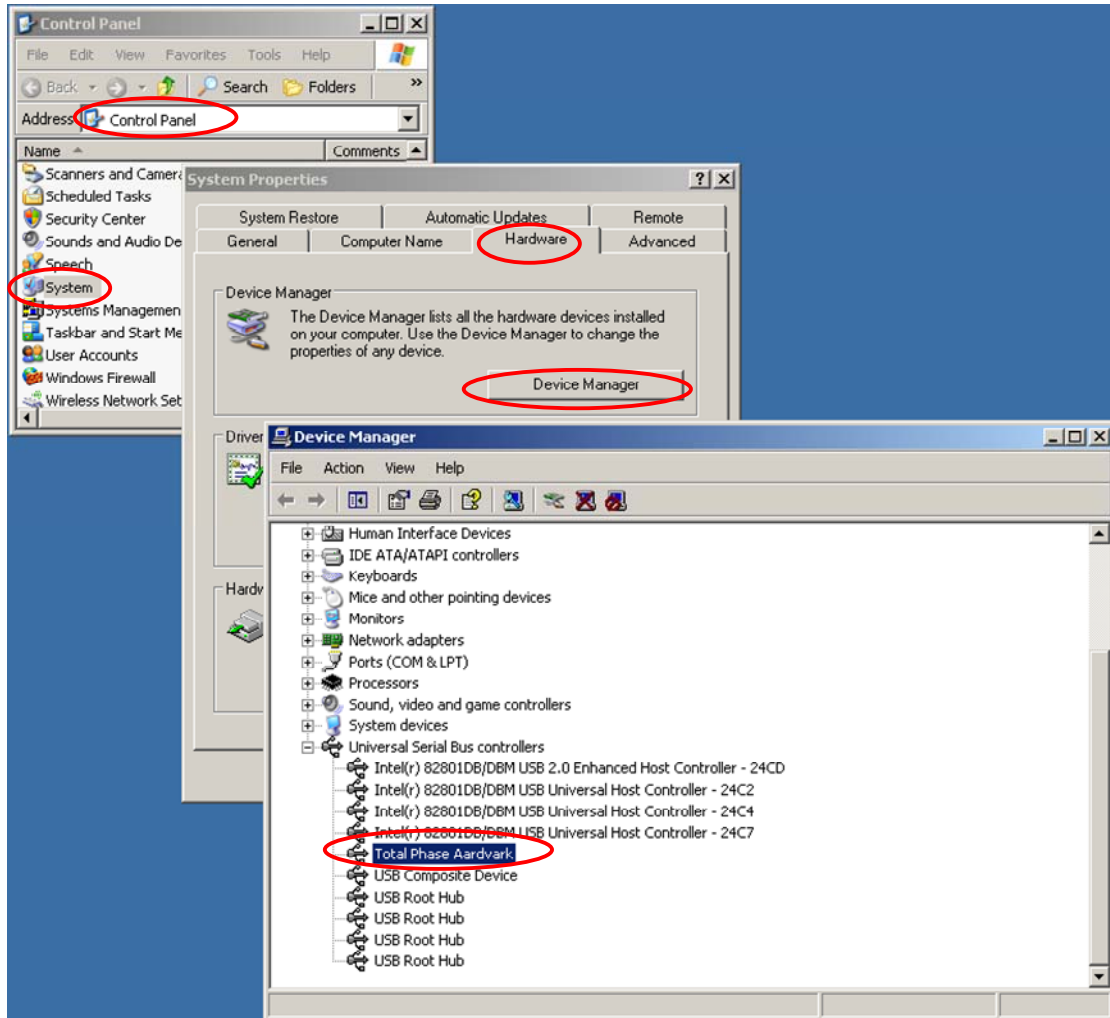

Figure 6 - Using System Device Manager
9. If the computer does not prompt for driver installation then the same process can be completed through the System Device Manager found in the Control Panel. See Figure 6. The programmer will appear as a “Total Phase Aardvark” device. To install the driver, right click on the device and select “Update Driver”.